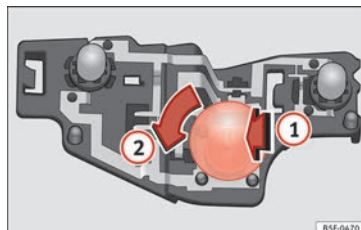

Fig. 222 Position of the bulbs in the bulb holder
- Lightly press the defective bulb into the bulb holder »» **Fig. 222 1**, then turn it to the left **2** and remove it.